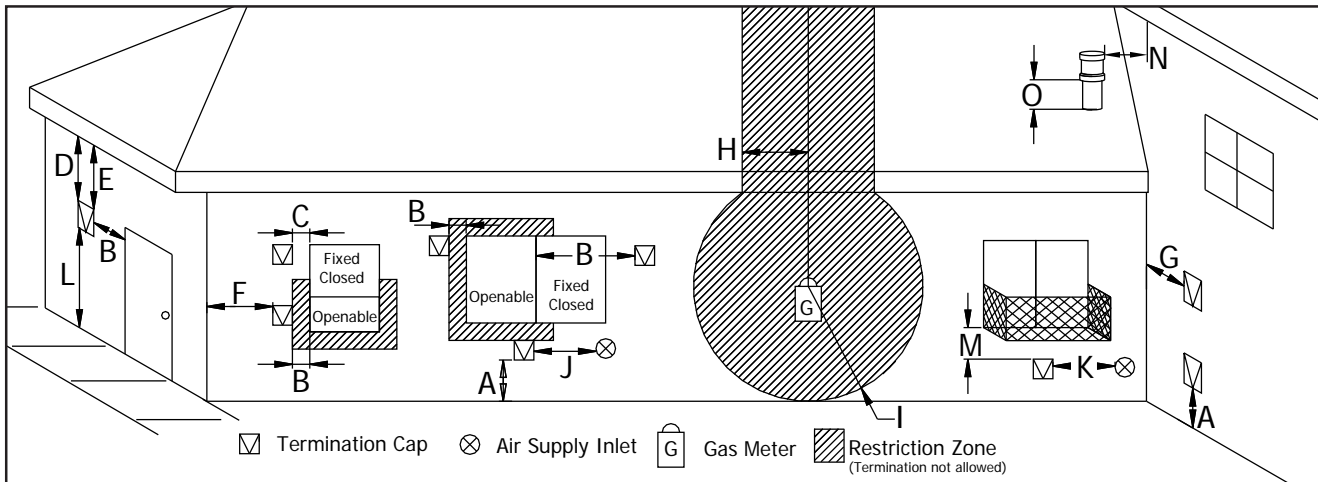

Figure 51: Vent Termination Restrictions, refer to Table 5.
- Step 3.** With the pipe in the correct position and attached to the fireplace, mark the wall for a 10 inches (25.4 cm) x 10 inches (25.4 cm) square hole (see Figure 51). The center of the hole should match the center line of the horizontal pipe. Cut and frame the hole in the exterior wall where the vent will be terminated. If the wall being penetrated is made of a non-combustible material (i.e. masonry or concrete) a 7 inches (17.8 cm) hole is acceptable.